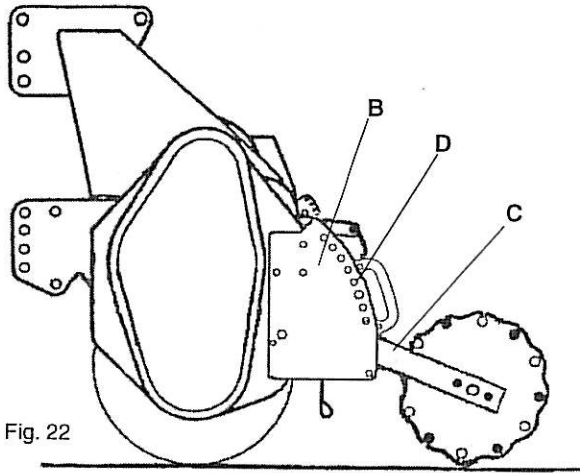

Fig. 22
Fig 22 illustrates the depth control wheels. Adjust the position control pins (D) to give the required working depth. Ensure scraper is fitted above the wheel.